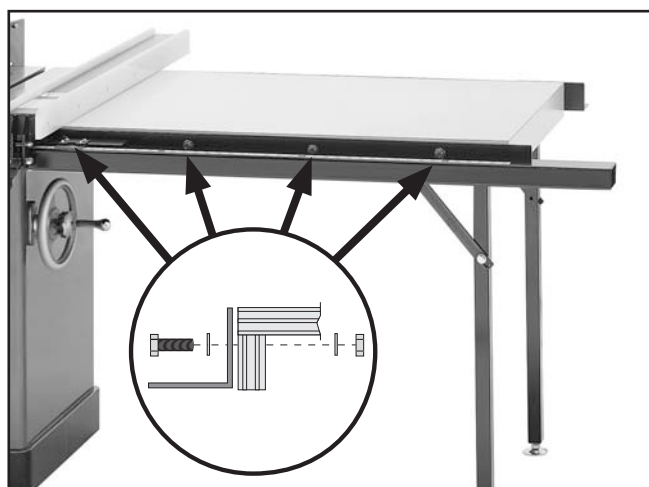

Figure 23. Extension table installed.
1. With the help of another person to hold the extension table, use the (8) $\frac{3}{8}$ "-16 x $1\frac{3}{4}$ " hex bolts, (16) $\frac{3}{8}$ " flat washers, and (8) $\frac{3}{8}$ " hex nuts to secure the extension table to the rails, as shown in **Figure 23**.